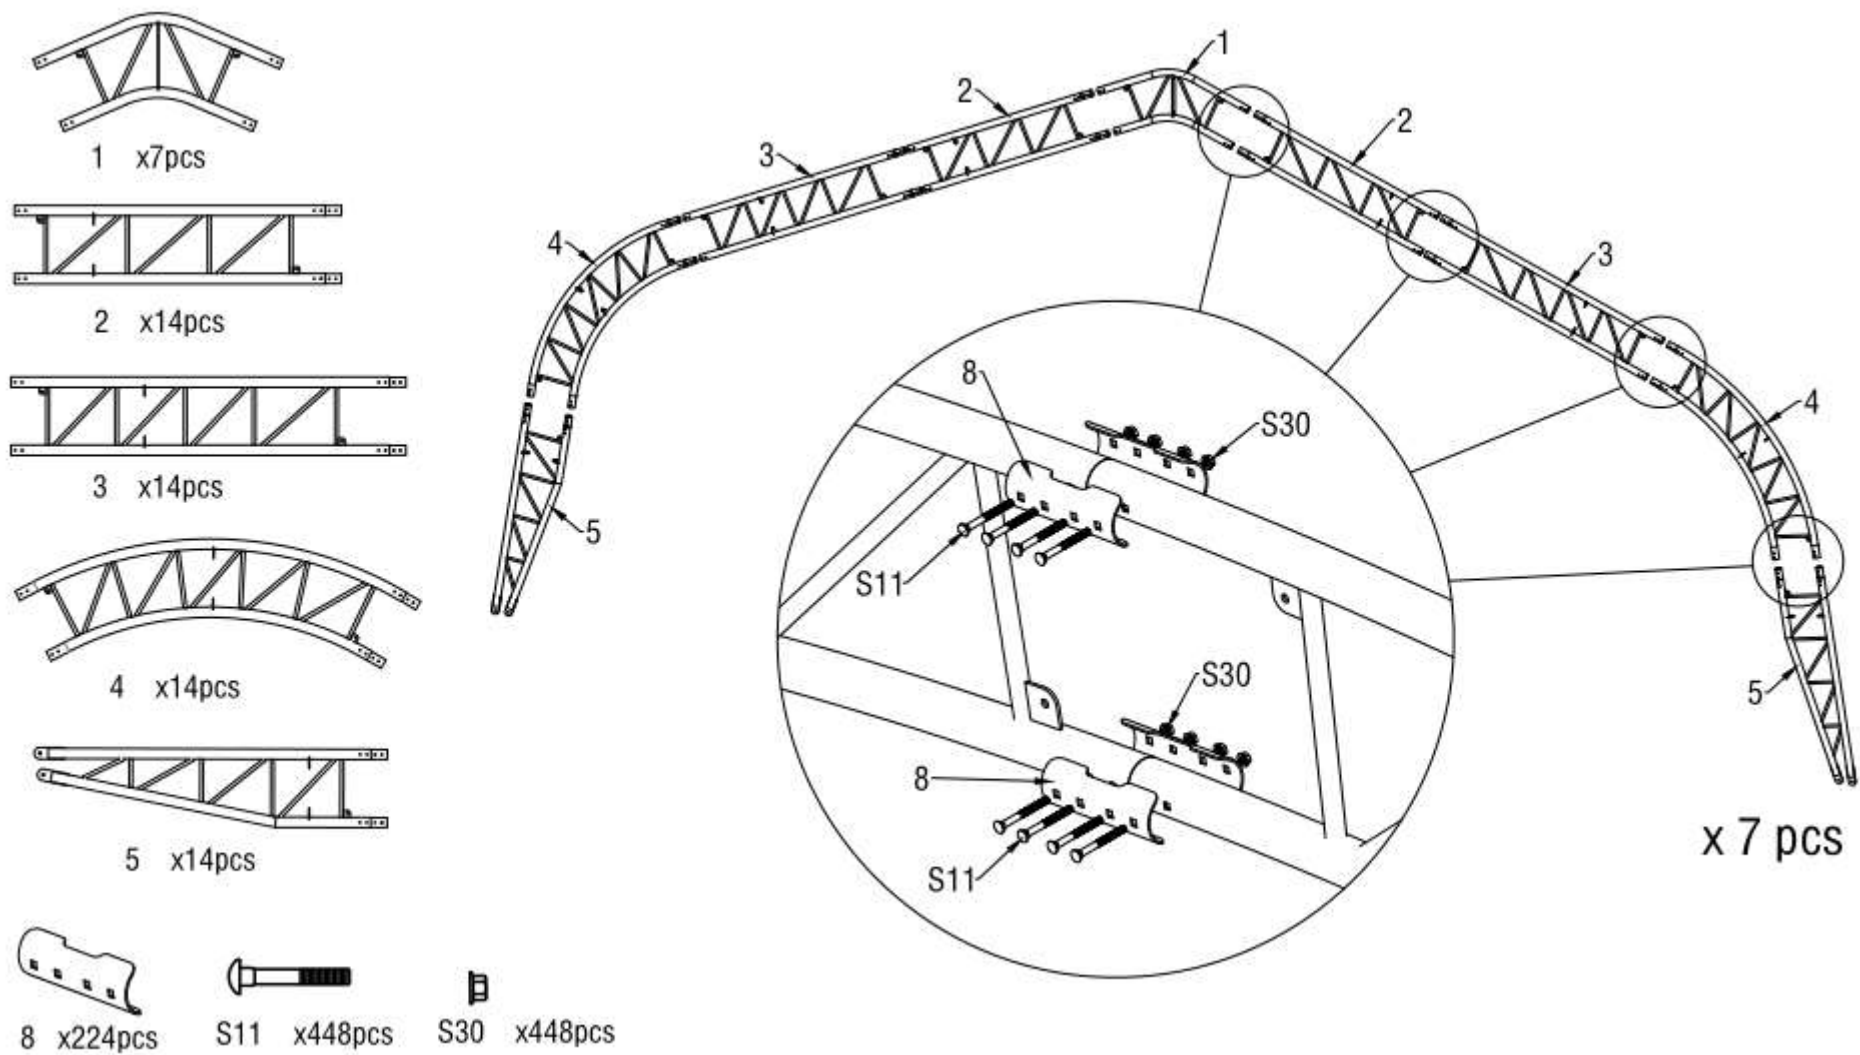

Figure 4
2. As Figure 4 shown to find one Top roof tube (No.1), two Roof upper curving tube (No. 2), two Roof middle curving tube at shoulder (No. 3) ,two Side lower curving tube (No. 4),two Lower curving tube (No. 5) and assemble every group arch with Screw M10x90 (No.S11). **DO NOT install the screw on the top of the truss where the fabric will rest.**